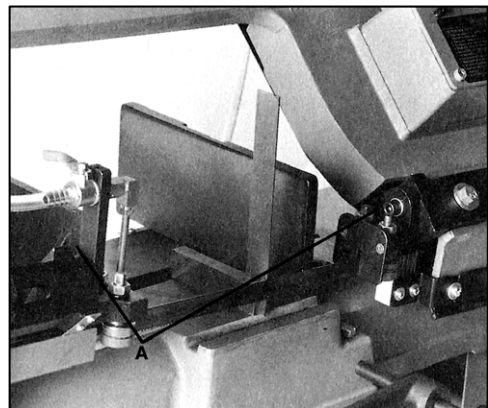

Fig. 12
2. Place machinist's square on the table next to the blade as in Figure 12.
4. If adjustment is necessary, loosen bolts (A, Fig. 12) and rotate blade guide assemblies slightly in the same direction until blade makes contact with the square along its entire width.
5. Tighten bolts (A, Fig. 12).